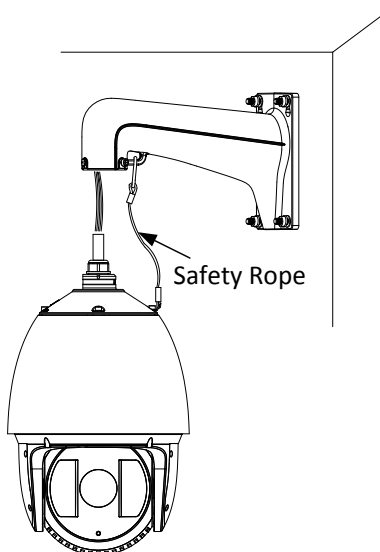

Figure 1-21 Install the Speed Dome
- 1) Hang the safety rope to the speed dome and the hook on the bracket as shown in Figure 1-21.